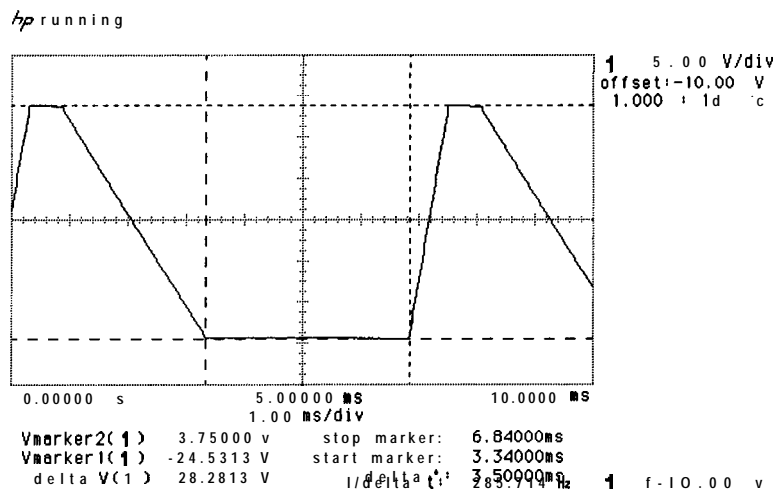

Figure 3-83. A Sampler Balance Adjustment Waveform
24. On the oscilloscope press **(SHOW)**. The VCO TUNE waveform displayed on the oscilloscope should be similar to Figure 3-83. Use the oscilloscope **(Δ T Δ V)** markers to measure the waveform maximum and minimum voltages, and the dead time between consecutive voltage ramps.